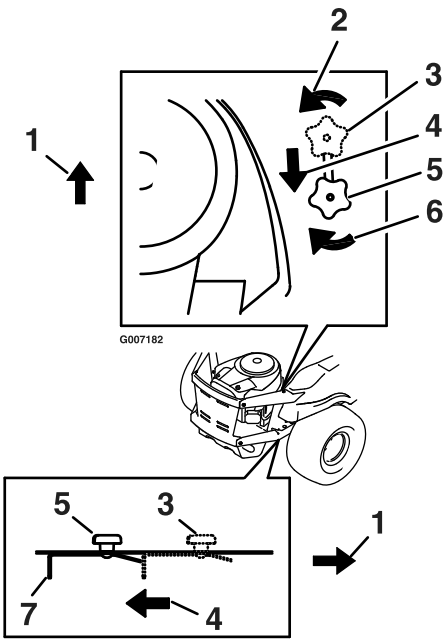

Figure 15
3. Locate the bypass release knobs on either side of the engine deck (Figure 15).
4. Loosen the knob by turning counterclockwise. Then pull the release lever on the underside of machine (Figure 15) towards the back of the machine and retighten the knob to hold the release lever back in the released state. Repeat this on each side of the machine.
Loosen the bypass knob, push the release levers forward, and retighten the knob to engage the drive system (Figure 15).